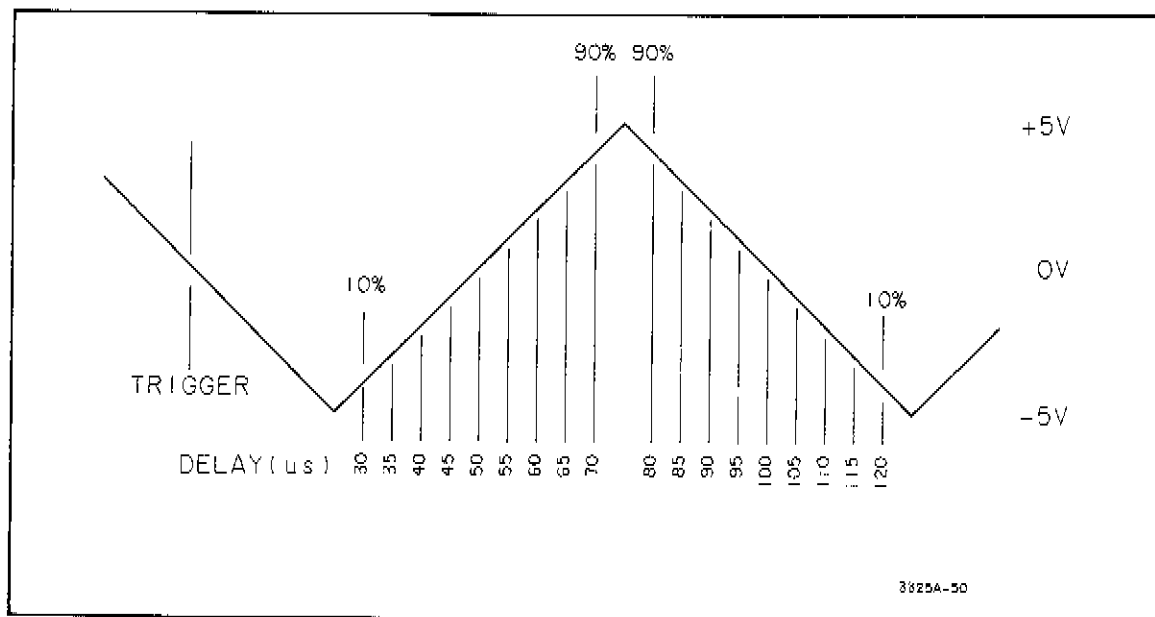

Figure 4-11. Triangle Linearity Test.
d. Set the digital voltmeter delay to .00003 (seconds). Record the digital voltmeter reading on the Performance Test Record under "Positive Slope Measurement, (10%) y_1 ". This is the 10% point on the positive slope of the triangle. See Figure 4-11.